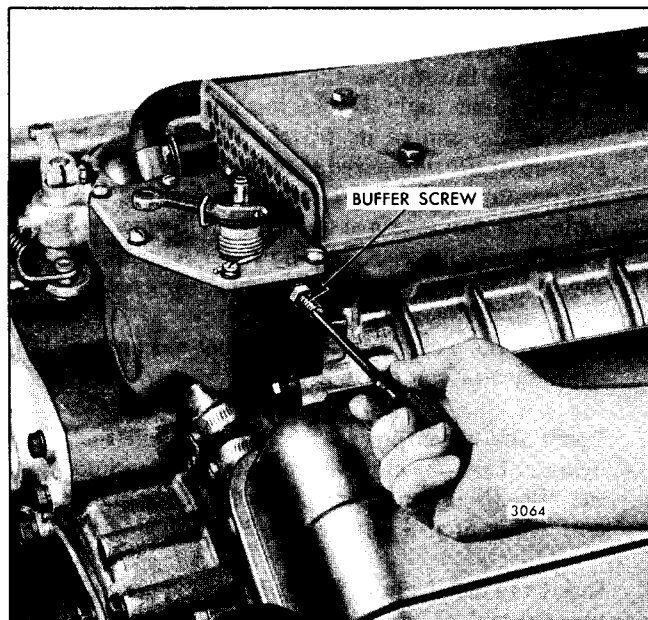

Fig. 8 - Adjusting Buffer Screw
1. With the engine running at normal operating temperature, turn the buffer screw in (Fig. 8) so that it contacts the differential lever as lightly as possible and still eliminates engine roll. *Do not raise the engine idle speed more than 15 rpm with the buffer screw.*